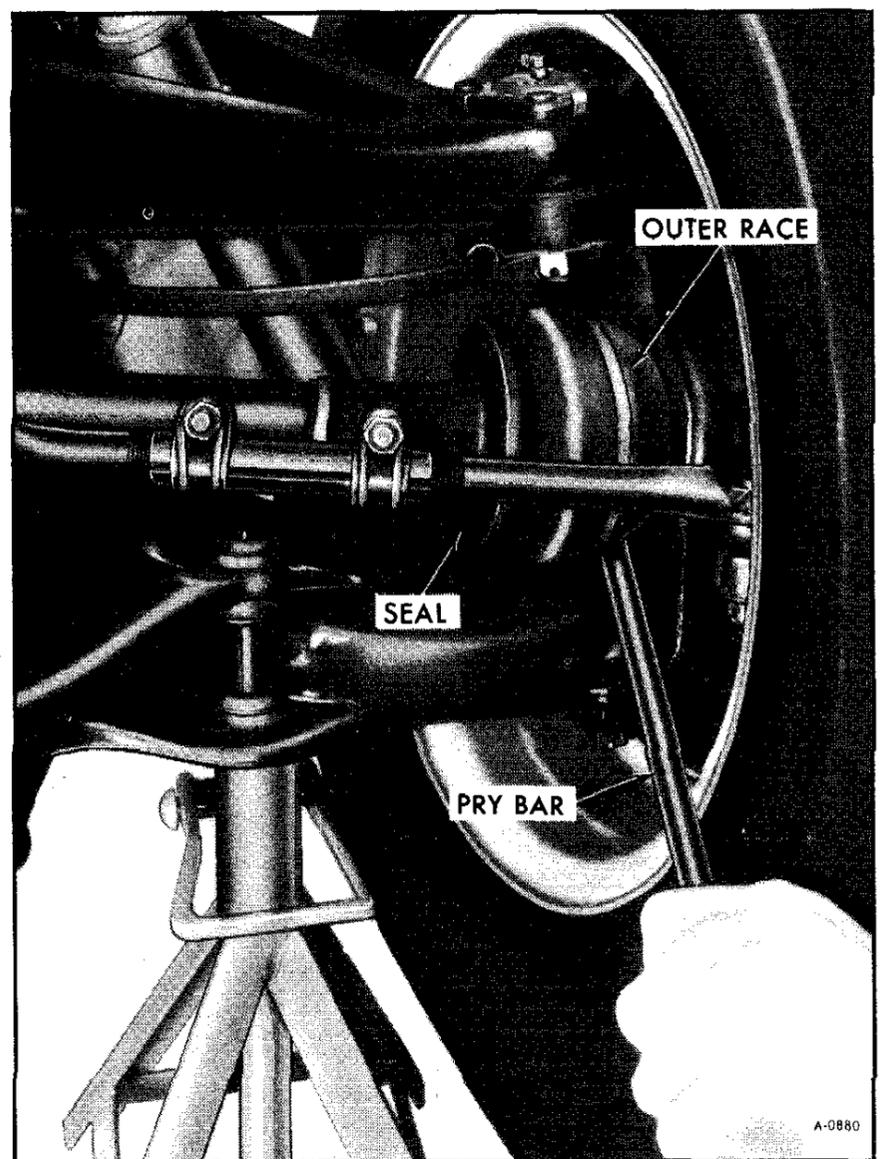

Figure 19—Pry Bar Installation
3. Place pry bar as shown in figure 19 and pry down on bar. Care must be used so that drive axle seal is not damaged. Reading must not exceed .125".